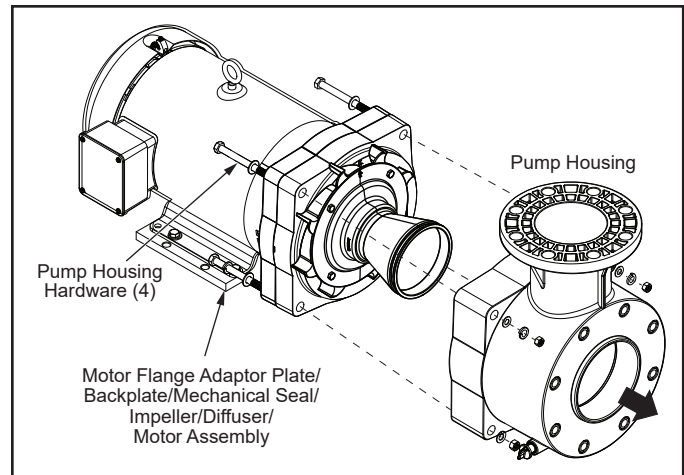

Figure 13. Remove Pump Housing
8. Using a 15/16" wrench, loosen the four (4) Hex Screws of the Pump Housing Hardware securing the Pump Housing to the Motor/ Motor Flange Adaptor Plate/Backplate/Mechanical Seal/Impeller/Diffuser assembly. See Figure 13.
9. Carefully pull the Pump Housing forward away from motor assembly. Ensure the Diffuser clears the pump housing during this process. See Figure 13.